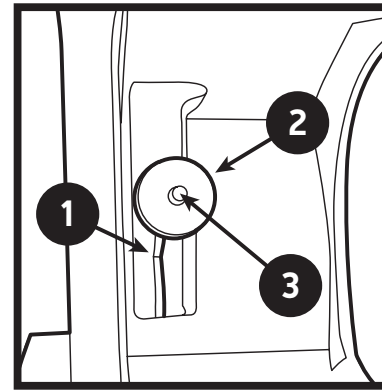

Figure 9
- + Every thirty days apply light machine oil to the rear wheel support and the Tension Arm Interface. (Figure 9) Two drops of oil is sufficient.